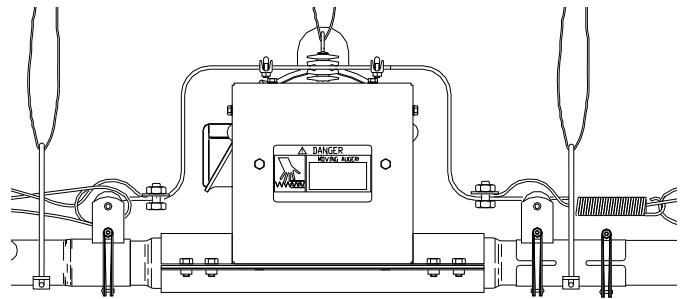

Figure 59. Anti-Roost Installation at the Drive Unit
9. At the control pan, after clamping the cable to the spring, cut the cable about 8 to 10" [200 to 250 mm] longer than necessary. Feed the end of the cable through the center of the spring, around the first insulator on the control unit, and clamp the cable using the cable clamp supplied with the control unit, see **Figure 59**.
10. Install the wire form on the control unit insulators. Be sure the guard snaps into the retainers molded into the insulators, see **Figure 59**.